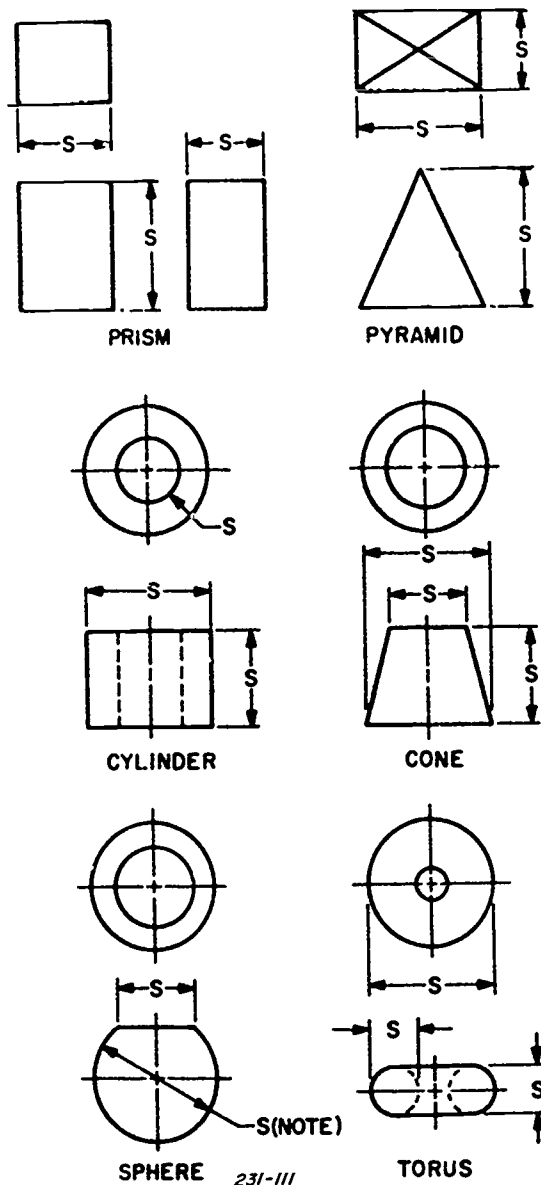

Figure 4-81. Dimensioning geometric shapes.
**Size Dimensioning.** Since every solid has three dimensions, each of the geometric forms which make up the object must have its height, width, and depth indicated in the dimensioning. These distance values are called size dimensions. Refer to figure 4-81 as you read the following information on dimensioning simple geometric forms.
The top view of the cylinder shown in figure 4-81 would be unnecessary if the dimension of the hole were placed on the rectangular view in the same position as the corresponding dimension on the view of the cone below. However, the dimension in this position would not indicate a diameter. In such cases where it is not clear from the view that a dimension indicates a diameter, the abbreviation "DIA" or "D" is given after the dimension figure.
and adding the word "SPHERE." Figure 4-81 also shows how a flat surface on a sphere is dimensioned.